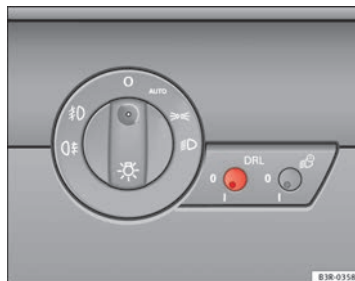

Fig. 89 Daytime running lights switch
- Briefly press the knob ⇒ fig. 89 to release it from its set position.